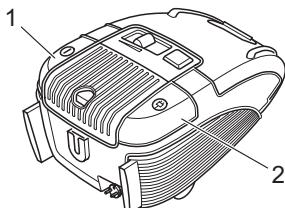

Fig. 15
1. Switch off the cylinder vacuum cleaner using the on/off switch (Fig. 15/1) and pull the plug out of the socket.
3. Press the cable retract button (Fig. 15/2) to pull in the power cable.